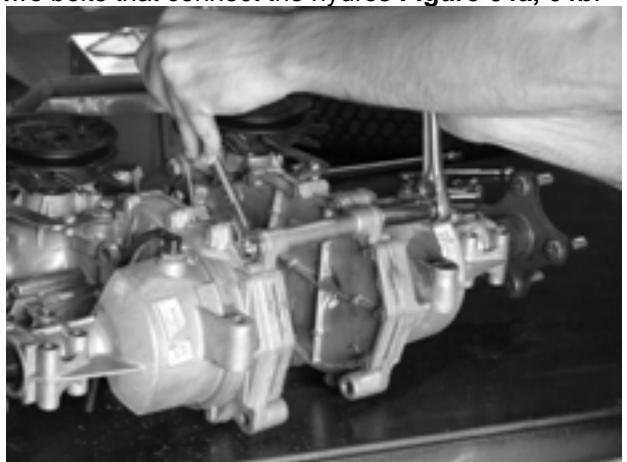

Figure 64a
11. Using a 9/16" wrench and 9/16" socket, remove the two bolts that connect the hydros **Figure 64a, 64b**.